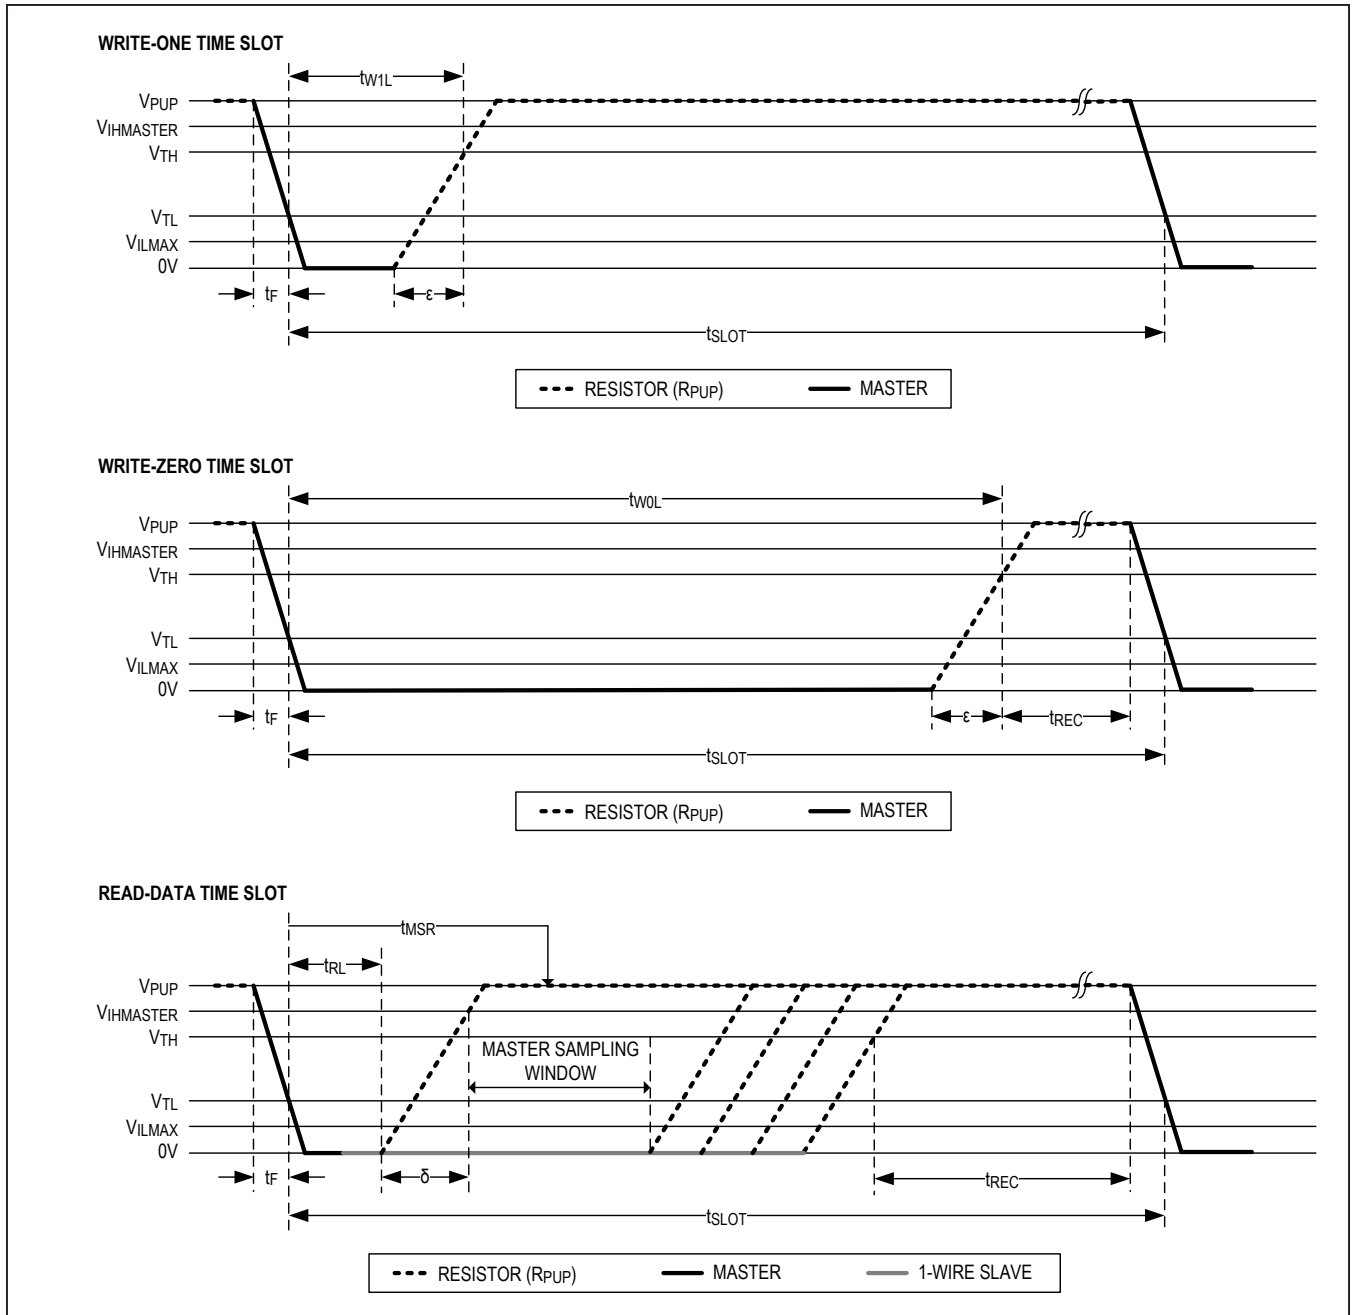

Figure 4. Read/Write Timing Diagrams
- Note 13:** System requirement.  $\epsilon$  in Figure 4 represents the time required for the pullup circuitry to pull the voltage on IO up from  $V_{IL}$  to  $V_{TH}$ . The actual maximum duration for the master to pull the line low is  $t_{W1LMAX} + t_F - \epsilon$  and  $t_{WOLMAX} + t_F - \epsilon$ , respectively.
- Note 14:** System requirement.  $\delta$  in Figure 4 represents the time required for the pullup circuitry to pull the voltage on IO up from  $V_{IL}$  to the input-high threshold of the bus master. The actual maximum duration for the master to pull the line low is  $t_{RLMAX} + t_F$ .
Data communication with the DS28E50 takes place in time slots that carry a single bit each. Write time slots transport data from bus master to slave. Read time slots transfer data from slave to master. Figure 4 illustrates the definitions of the write and read time slots.